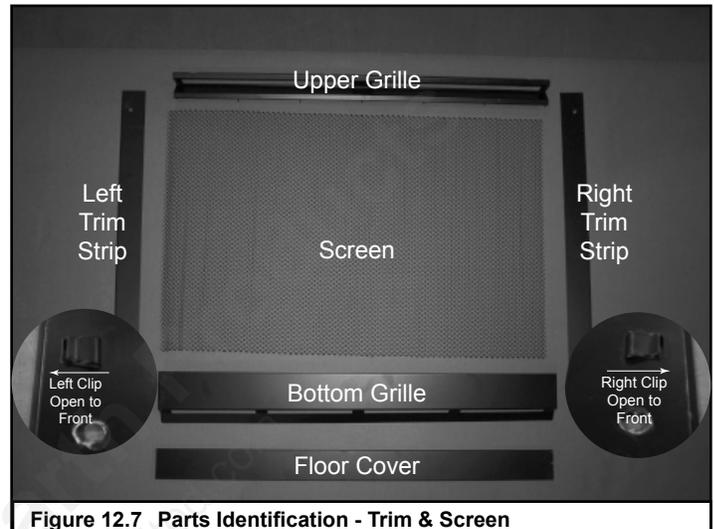

Figure 12.7 Parts Identification - Trim & Screen
- Locate and attach left and right trim strips (see Figure 12.7 for parts identification) using four #10 x 1 in. screws from fastener pack. See Figure 12.9.